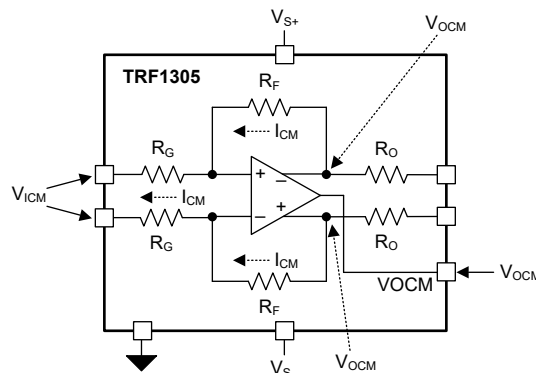

Figure 8-4. Net DC Current Flow When Input and Output Common-Mode Voltages are not Equal
The TRF1305x2 accepts a wide range of input dc common-mode (CM) voltages. Take into consideration the dc current loading of the source when the TRF1305x2 is dc-coupled at the input. Figure 8-4 shows that when the input CM voltage, V_{ICM} , is different than the output CM voltage, V_{OCM} , a net dc current flow from or to the source occurs. Equation 1 shows the relationship that the source or sink current, I_{CM} , has with the input and output CM voltages: